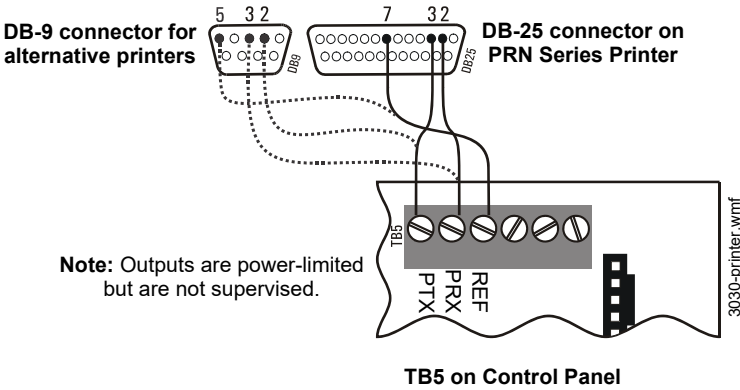

Figure 3.16 Printer Connections
- 1. Fabricate a custom cable to connect a printer to the system. Length of the cable will vary with each installation, but should not exceed a maximum length of 15 metres. Printer must be installed in the same room as panel. Using overall foil/braided-shield twisted-pair cable, properly connect one end to the DB-25 Connector (provided) using the wiring specifications shown in Figure 3.16.
NOTE: Alternative wiring specifications are also shown in Figure 3.16 for a printer with a 9-pin connector. Refer to printer manual for detailed connection information.
- 2. Tighten clamp on connector to secure cable. Connect the four open leads of the custom cable to the TB5 terminal block on the CPU as shown in Figure 3.16.